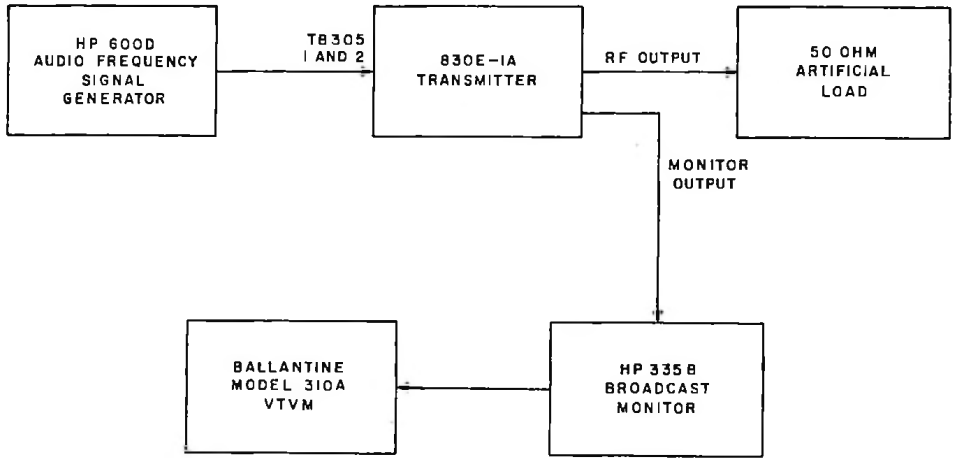

Figure 5-4. FM Noise Test Setup
a. Refer to figure 5-4. Connect an audio frequency signal generator, such as a Hewlett-Packard Model 600D, to terminals 1 and 2 of terminal board TB-305. (Disconnect the station console audio input leads when making this measurement.) Connect a vacuum-tube voltmeter to the output terminals of the broadcast monitor. Connect an artificial load to the r-f output connector located on top of the power amplifier cabinet. Turn on the transmitter.